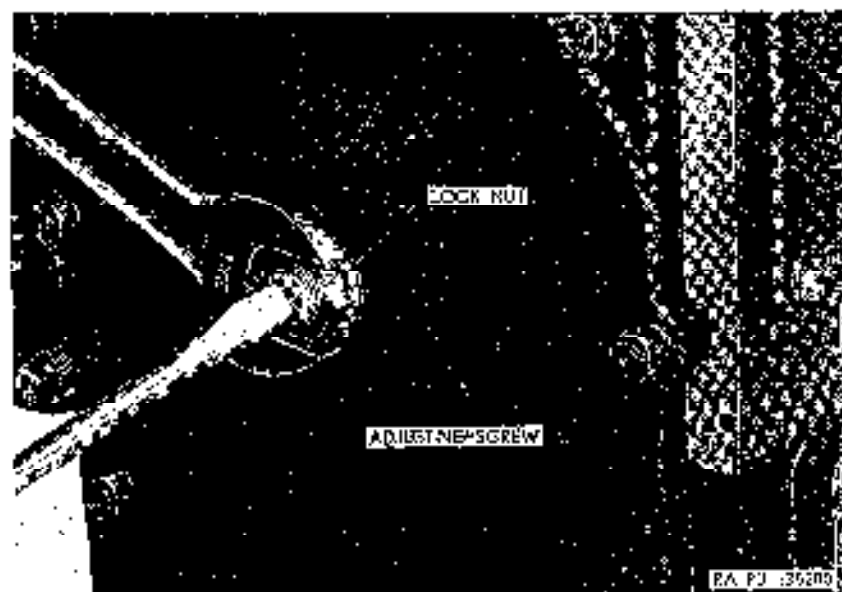

Figure 865. Adjusting steering arm shaft.
- (e) Tighten adjusting screw (fig. 865) until a very slight drag is felt when turning the steering wheel with a light grip of the knob and forefinger. Wheel should turn freely with just a perceptible drag.
- (f) Holding the adjusting screw to prevent further turning, tighten the locknut (fig. 865).
- (g) Adjust steering gear jacker ((2) below).
(2) Steering gear jacker adjustments.